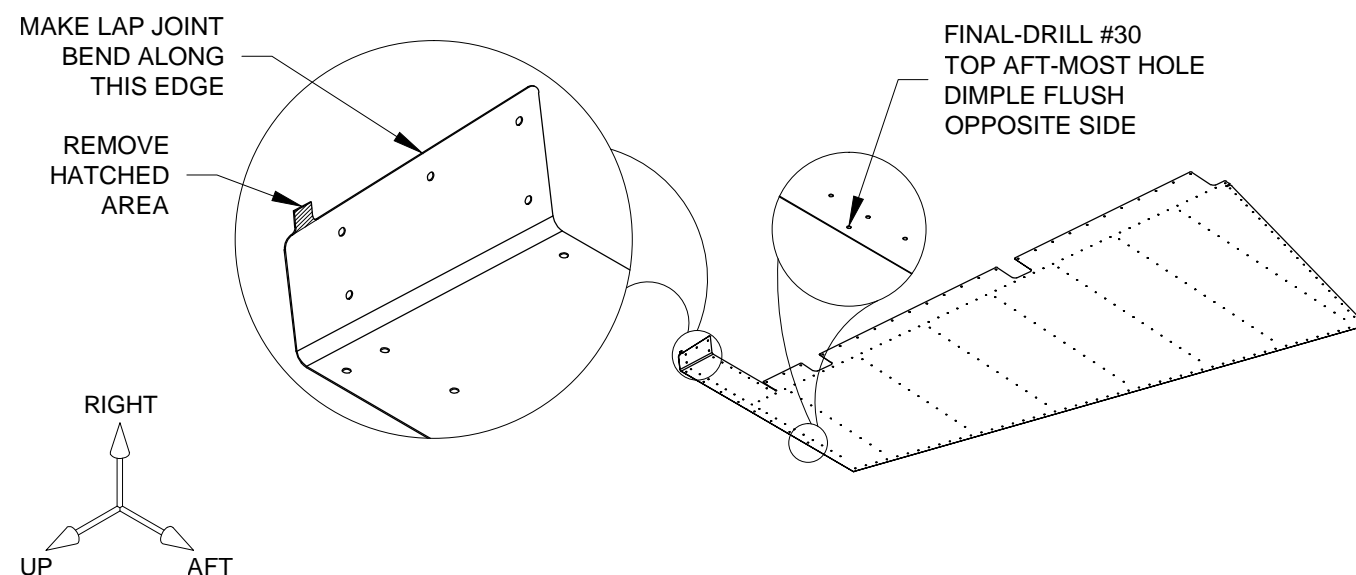

FIGURE 2: LEFT RUDDER SKIN TAB TRIM
Step 4: Final-Drill #30 the 3/32 [2.39mm] hole in the R-00901-L-1 Rudder Skin as called out in Figure 2. Dimple for CS4 rivet flush on the surface opposite the flange bend direction.
Step 5: Make a slight bend along the flange of the R-00901-L-1 Skin where it will overlap the R-00901-R-1 Skin flange. See Section 5.10 for information on lap joints. See Figure 2.